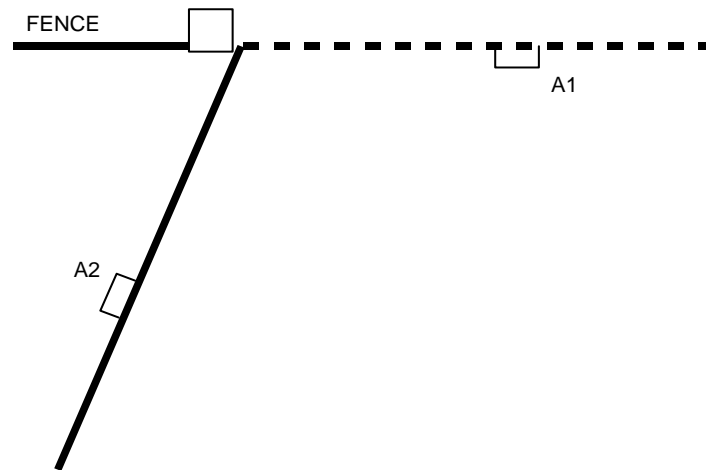

Figure 20
3. Swing the gate to the desired open position. This can be less than 90°, 90°, or greater than 90° (max 120°). With the gate in the desired position, mark a second point on the ground directly under the center of the gate bracket. Label this point A2 (Figure 20).